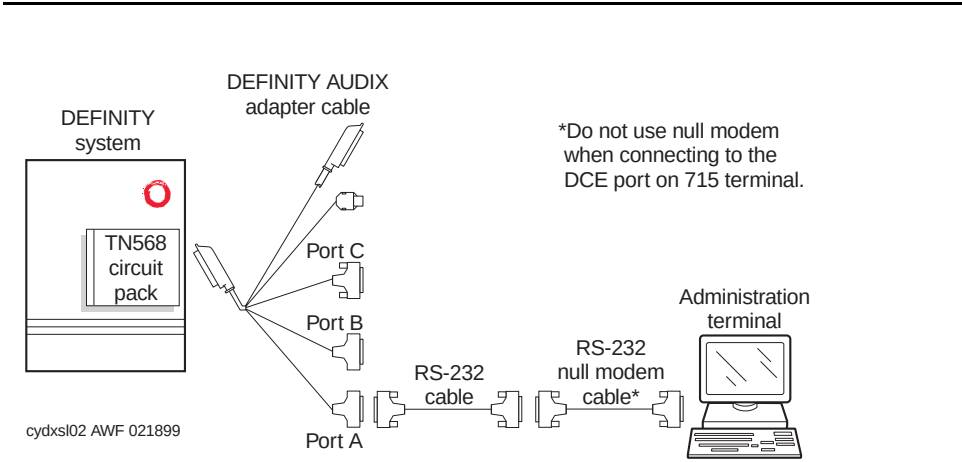
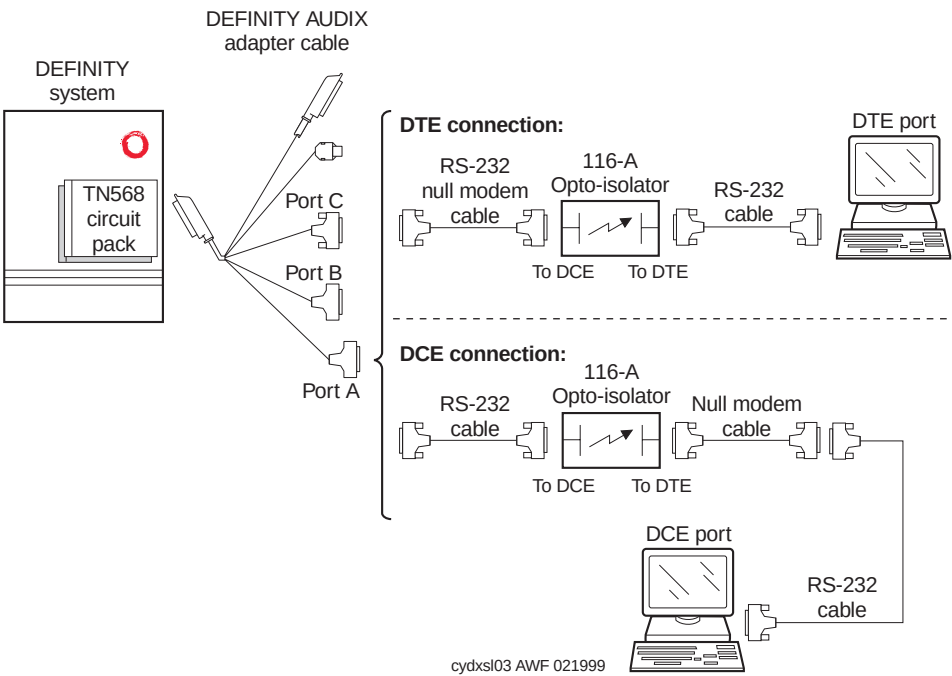

Figure 2-6. Installing a Terminal via Direct Connection (AC Switch only)
Figure 2-7. Installing a Terminal via Direct Connection (DC Switch Only)
Refer to Figure 2-6 for systems installed in AC-powered switches, and to Figure 2-7 for systems installed in DC-powered switches.
4. If you did not connect an opto-isolator to either PORT A or PORT B, connect the terminal as shown in Figure 2-6.
5. If you did connect an opto-isolator to the PORT A or PORT B connectors on the system cable (in Task 2-1), connect the equipment as shown in Figure 2-7.
For a DCE terminal connection, attach a null modem cable between the opto-isolator and the RS-232 cable as shown in Figure 2-7.